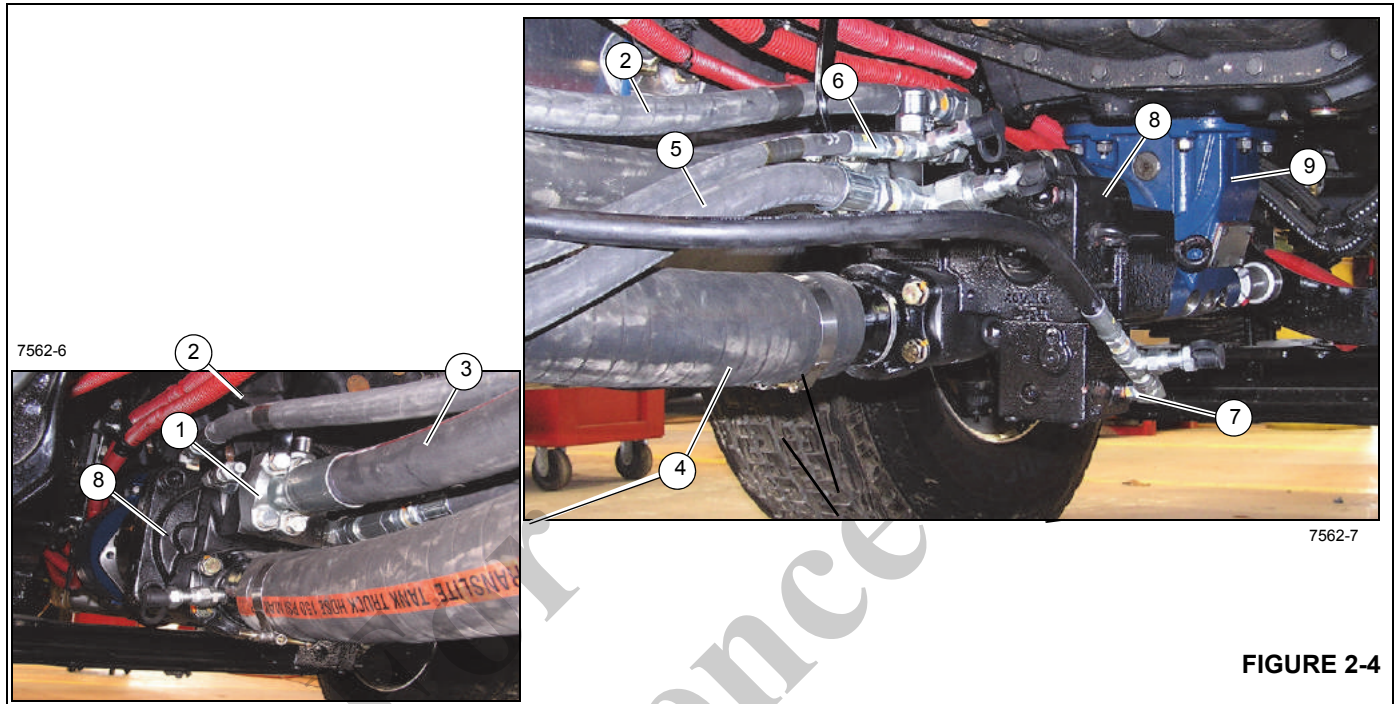

FIGURE 2-4
(Figure 2-4) Item List
The hydraulic system pressure is supplied from an axial piston pump mounted on the truck power take off (PTO) (Figure 2-4). The hydraulic pump requires a PTO rating of 156.5 kw (210 hp) @ 2200 rpm.
4. Fill the pump housing with hydraulic fluid. Pour the oil directly into the upper most case drain port (Figure 2-4).